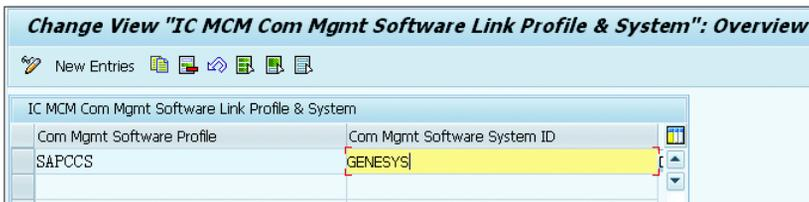

Figure 9.9 IC Communication Management Software Linking the Profile and System
- Again, assign the COMMUNICATION MANAGEMENT SOFTWARE SYSTEM ID to the CMS profile via the menu path, INTERACTION CENTER • INTERACTION CENTER WEBCLIENT • ADMINISTRATION • COMMUNICATION MANAGEMENT SOFTWARE • ASSIGN PROFILES (see Figure 9.9).